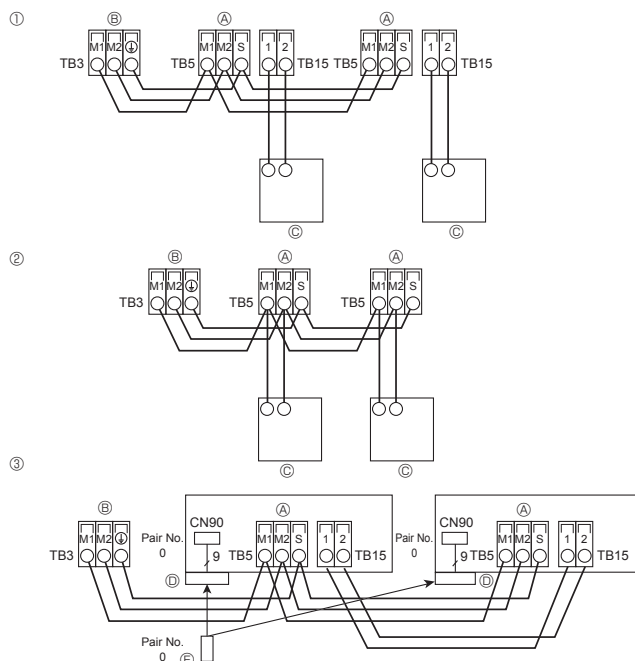

Fig. 4-3
④ 4 direction	2.5 m	2.7 m	3.5 m
③ 3 direction	2.7 m	3.0 m	3.5 m
② 2 direction	3.0 m	3.3 m	3.5 m
4.4. Connecting remote controller, indoor and outdoor transmission cables (Fig. 4-3)